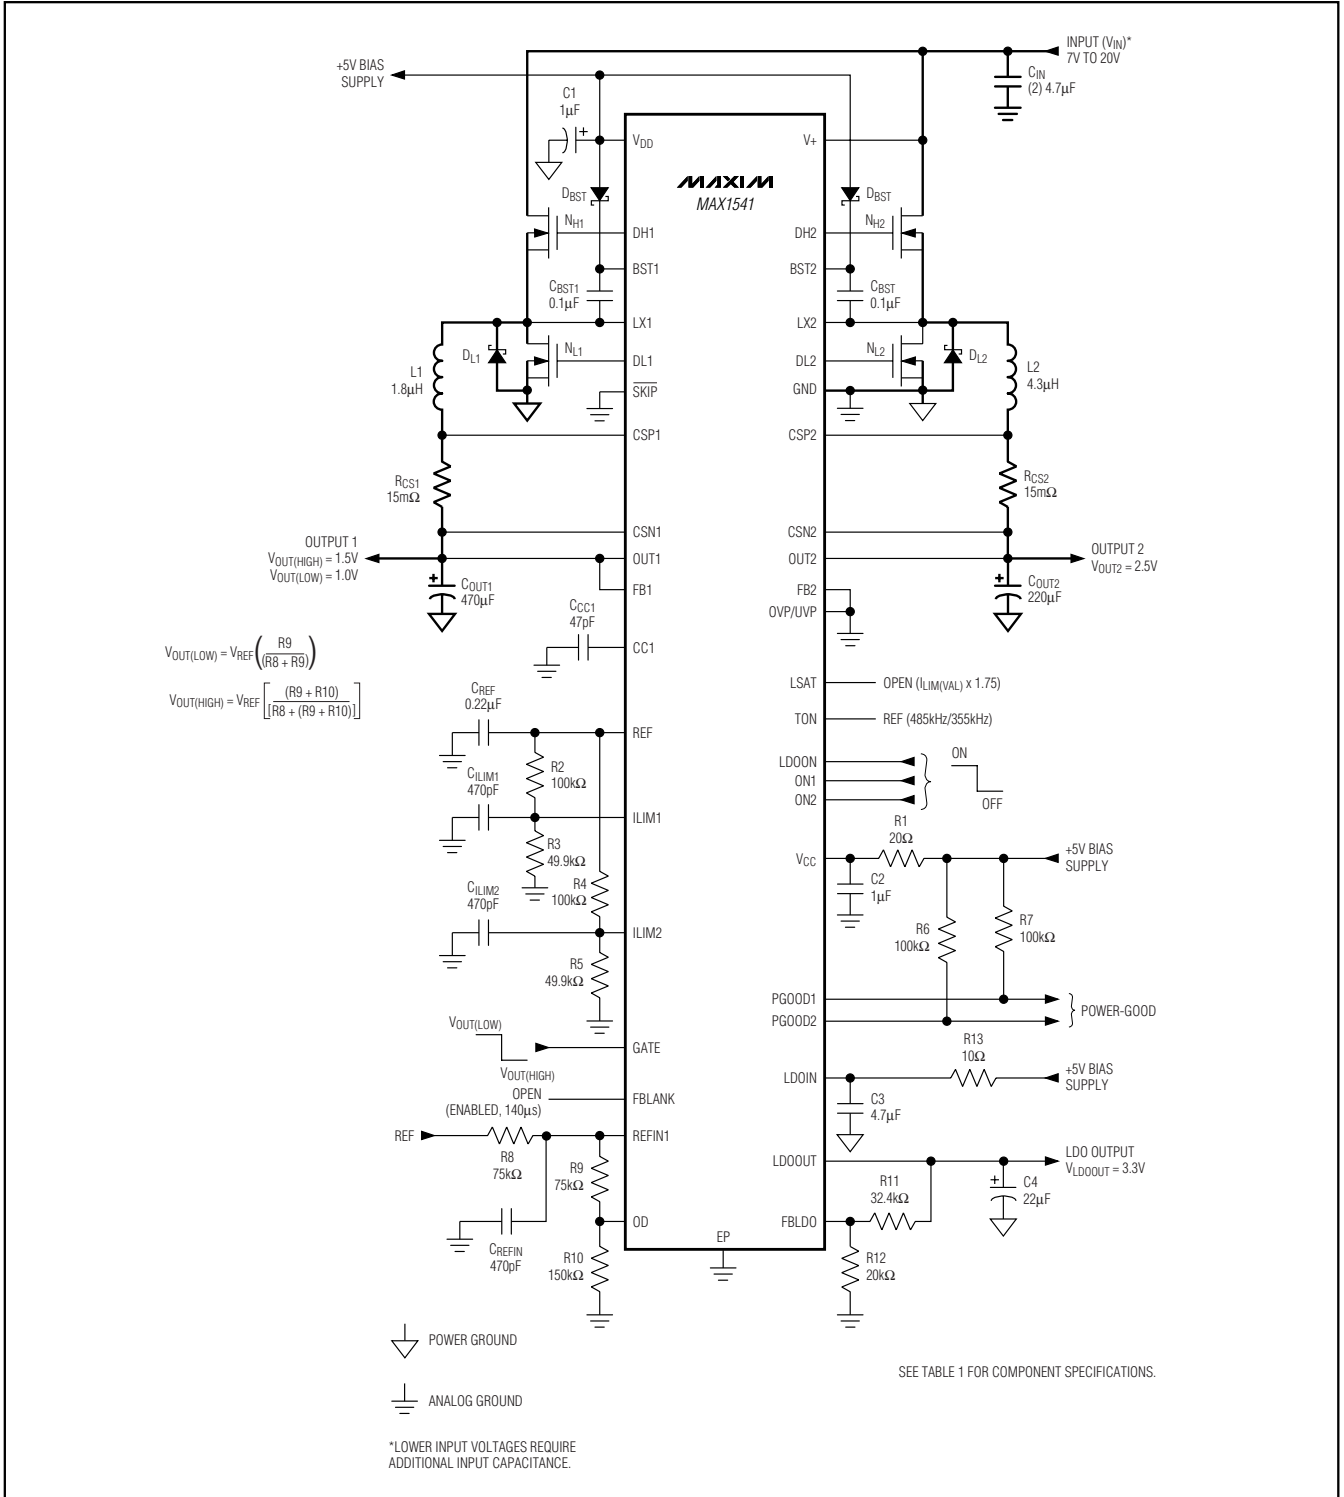

Figure 12. MAX1541 Standard Application Circuit
The MAX1541 regulates FB1 to the voltage set at REFIN1. By changing the voltage at REFIN1, the MAX1541 can be used in applications that require dynamic output-voltage changes between two set points. Figure 12 shows a dynamically adjustable resistive voltage-divider network at REFIN1. Using the GATE signal and open-drain output (OD), a resistor can be switched in and out of the REFIN1 resistor-divider, changing the voltage at REFIN1. A logic high on GATE turns on the internal N-channel MOSFET, forcing OD to a low-impedance state. A logic low on GATE disables the N-channel MOSFET, so OD is high impedance. The two output voltages (FB1 = OUT1) are determined by the following equations:
voltage during dynamic transitions. With the additional capacitance, the REFIN1 voltage slews between the two set points with a time constant given by  $REQ \times C_{REFIN1}$ , where  $REQ$  is the equivalent parallel resistance seen by the slew capacitor. Looking at Figure 12, the time constant for a positive REFIN1 voltage transition is:
For the MAX1541, the linear regulator supports Dual Mode operation to allow the selection of a 5V output voltage without requiring external components (Figure 1). Connect FBLDO to GND for a fixed 5.0V output. The linear regulator's output voltage can be adjusted from 1.25V to 5.5V using a resistive voltage-divider (Figure 12). The MAX1541 regulates FBLDO to a 1.25V feedback voltage. The adjusted output voltage is: